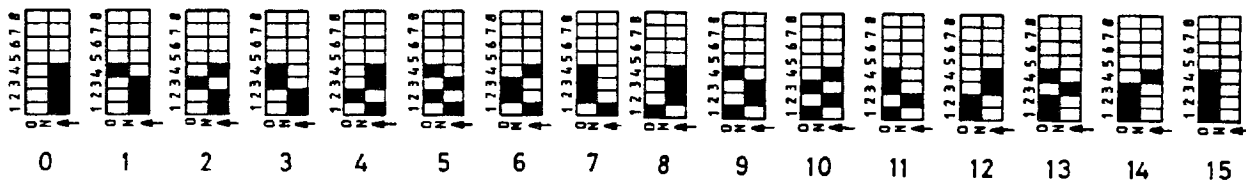

Fig. 11
1. Switches 1-4 are used to set the exact METATRON location in the system (see fig. 11).